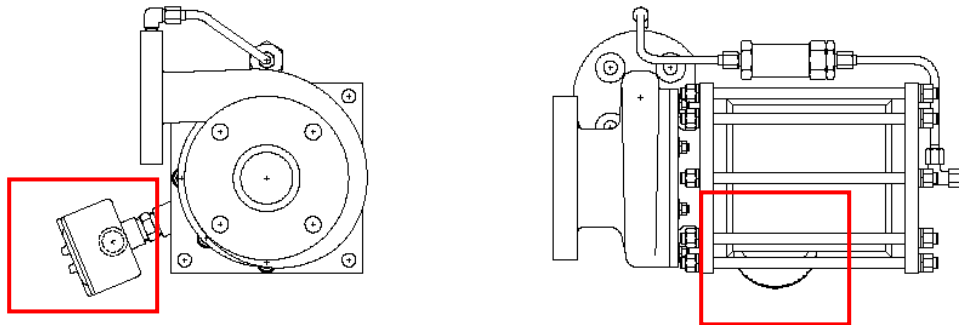

Figure 4-5: Terminal box (typical design)
- Electrical power. Electrical power connections to the motor must be made in accordance with the motor manufacturer's instructions and also in accordance with local governing codes. The power supply must agree with the motor nameplate voltage and have ampacity (current capacity) at least 20% above motor nameplate Full Load Amps (FLA). Terminal boxes (Figure 4-5) are located on the electric motor.